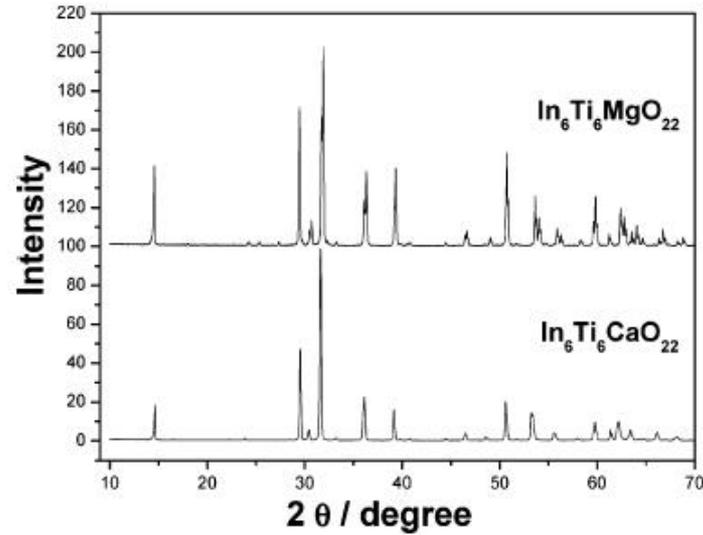

Figure 3. X-ray diffraction patterns of $\text{In}_6\text{Ti}_6\text{CaO}_{22}$ and $\text{In}_6\text{Ti}_6\text{MgO}_{22}$.
Figure 3. SAED patterns for $\text{La}_4\text{Cu}_2\text{ZnMoO}_{12}$ in the (310) (a), (100) (b), and $(1\bar{1}0)$ (c) zones; (d) shows the orientation of the diffraction patterns. (The diffraction patterns were indexed using the A-centered pseudohexagonal cell, $a = 7.9 \text{ \AA}$ and $c = 22 \text{ \AA}$.)